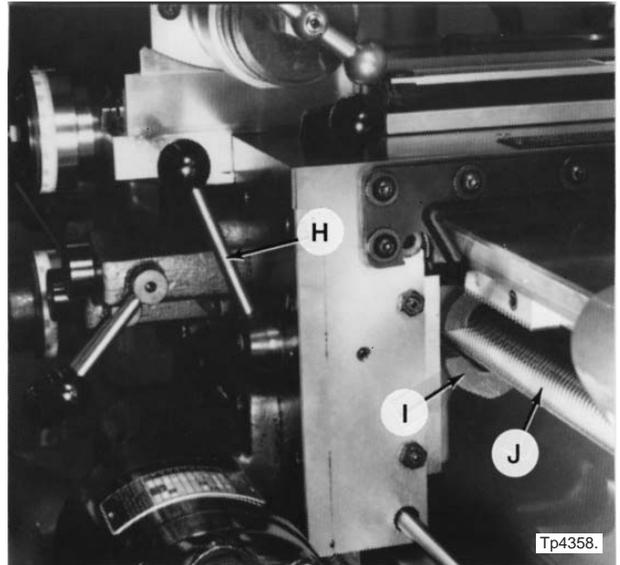

Figure 1.31 - Carriage Lead Screw Nut
5. Engage carriage lead screw nut "I", Figure 1.31, with carriage lead screw "J" by rotating lever "H" clockwise (as viewed from the front of the machine).
7. Disengage carriage lead screw nut "I", Figure 1.31, from carriage lead screw "J" by rotating lever "H" counterclockwise.
13. Remove carriage lead screw "J", Figure 1.31, from the machine by carefully removing it to the right through feed screw nut "I".
6. Install carriage lead screw "J", Figure 1.31, in the machine by carefully moving it to the left through feed screw nut "I".
10. Engage carriage lead screw nut "I", Figure 1.31, with carriage lead screw "J" by rotating lever "H" clockwise.
12. Disengage carriage lead screw nut "I", Figure 1.31, from carriage lead screw "J" by rotating lever "H" counterclockwise.